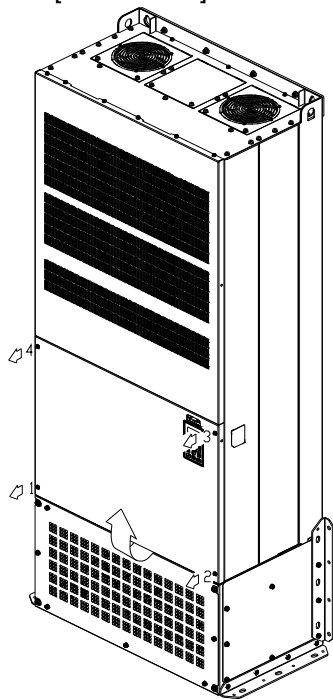

Figure 1
1. Loosen the screw 1–4 and remove the top cover (figure 1).